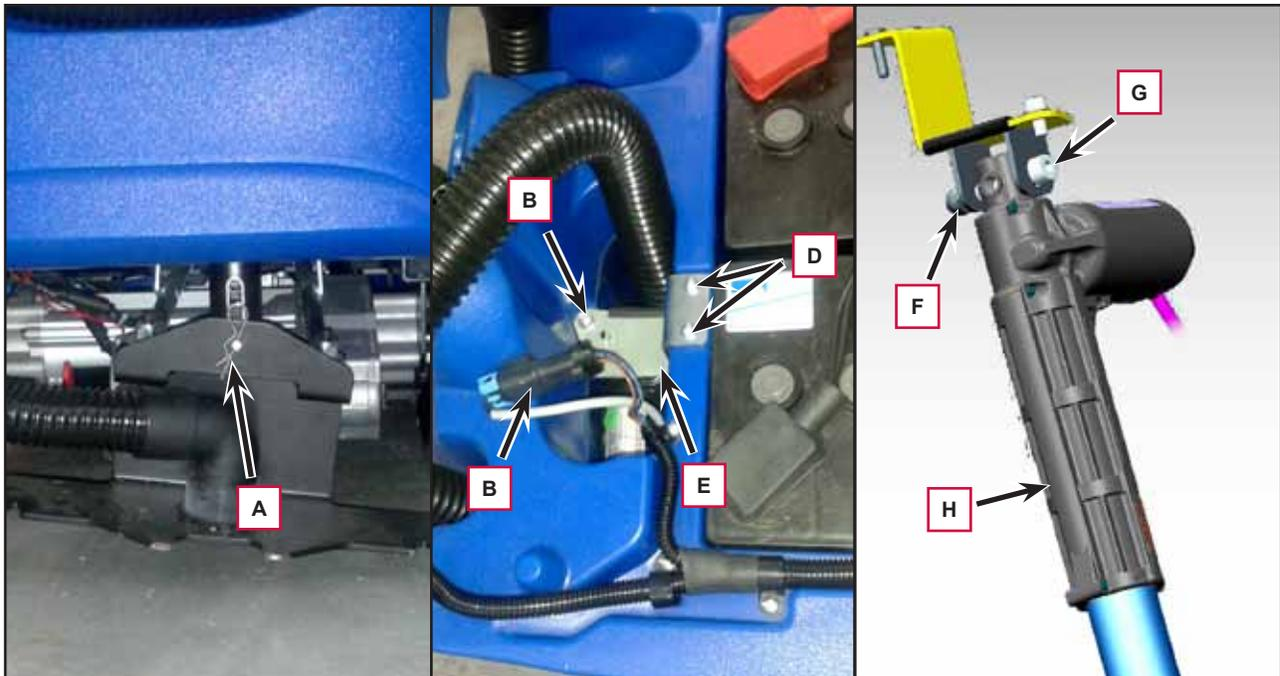

Figure 4
4. Disassemble the retaining spring (A, Figure 4), retrieve screws and washers.
5. Disconnect the squeegee power supply connection (B).
6. Remove the two screws (C) and the screw (D), then lift the actuator plate (E).
7. Remove the nut (F) and retrieve the screw (G).
8. Replace the actuator (H).